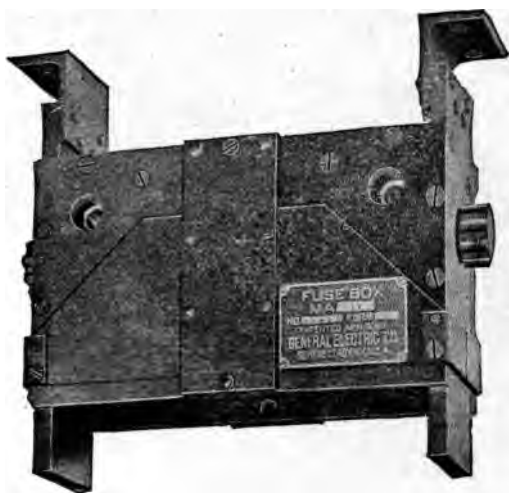

Fig. 486. Main Fuse.
15. THE MAIN FUSE (Fig. 486) is located beneath the car, at the trailer end, near the main switch.